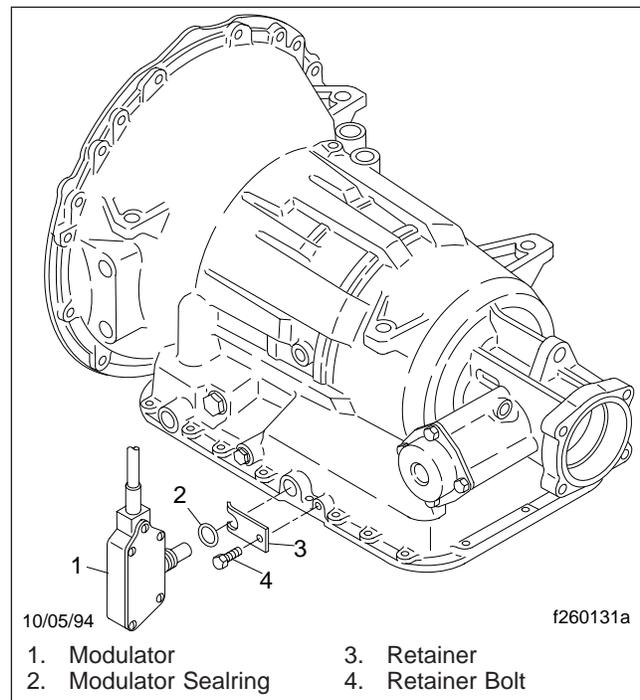

Fig. 6, Allison AT Series Transmission Modulator
4. Remove the modulator retainer bolt and retainer from the side of the transmission case. See **Fig. 6**. Remove the modulator. Remove the sealing from the modulator and discard the sealinging.